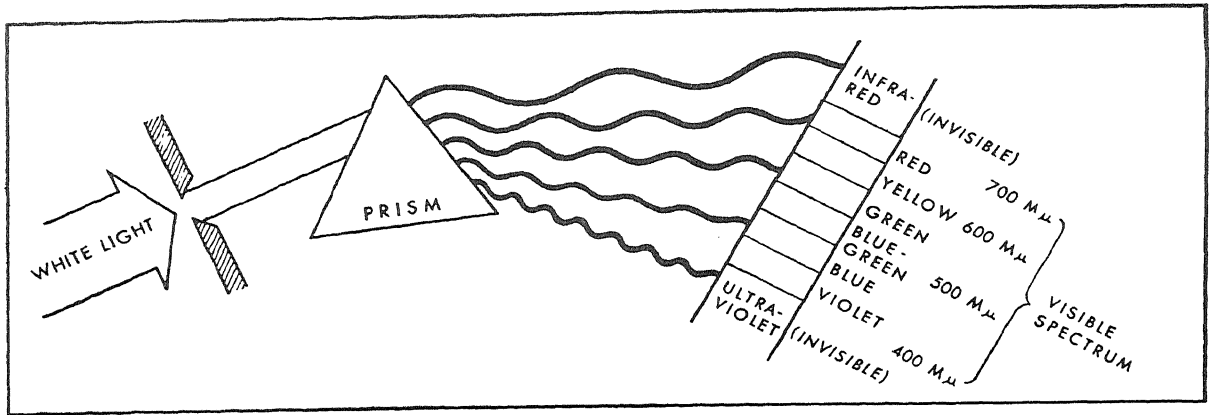
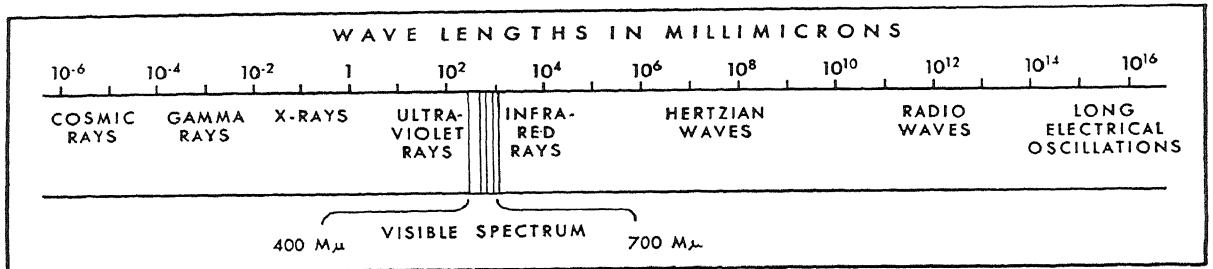

FIGURE 1.
FIGURE 2.
When a beam of white light is separated into a *spectrum* by a prism, the interrelation of the colors is shown in Figure 1. The wavy lines indicate their wave lengths, and the figures (700 $m\mu$, etc.) give the wave length in millimicrons or millionths of a millimeter. Wave length is mentioned because light behaves in a wave-like manner, and is just one member of the great spectrum shown in Figure 2, and because the appearance of color is due solely to the effects of the various wave lengths on the eye.
For the purpose of measuring and showing color sensitivity and so on, an instrument known as a spectrograph is used (see Figure 5). It analyzes white light into a spectrum, as shown in Figure 1. The film to be tested is placed where the spectrum is formed. A scale with
5. This drawing shows how the Spectrograph can be used for the purpose of measuring and showing color sensitivity. It analyzes white light into a spectrum as shown in Figure 1. The film to be tested is placed where the spectrum is formed.